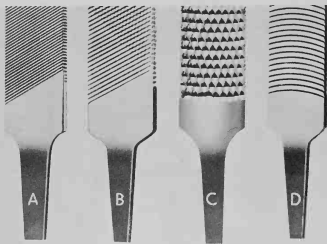

Fig. 4-31. Cuts of files: (A) Single cut; (B) Double cut; (C) Rasp cut; (D) Curved-tooth cut. (Nicholson File Co.)
**The cut:** This refers to the character of the teeth; such as single, double, rasp, and curved, Fig. 4-31,